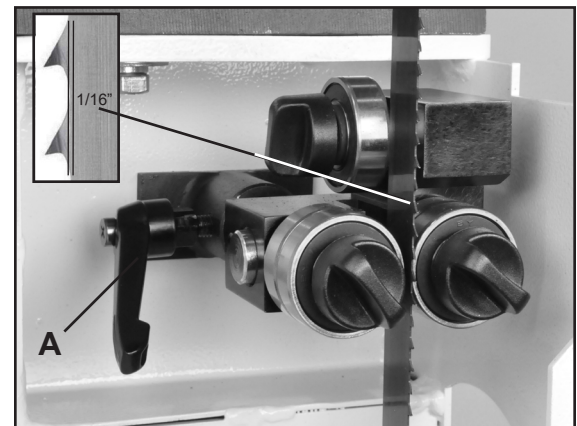
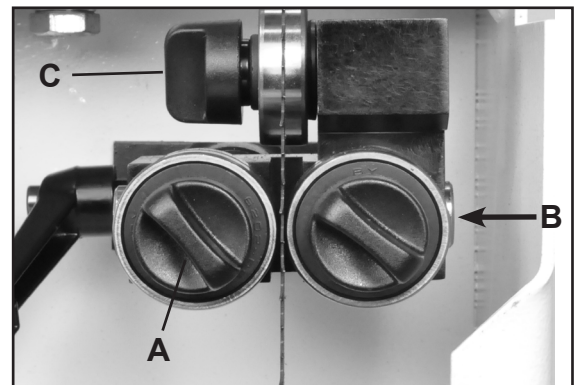

Figure 21
Figure 22
**Lower Guides:** To adjust the lower blade guides, first loosen the Lock Handle (A-Fig.21). Move the lower guide support assembly to allow the side roller guides to be approximately 1/16" behind the gullets of the blade, and re-tighten the Lock Handle. Next set the roller guides to within 1/32" of the blade by releasing the Lock Handles (A-Fig.22) and push the ends of the Guide Shafts (B-Fig.22) towards the blade. Do not set the guides too close, as this will adversely affect the life of the blade. Finally, follow the same steps above to position the rear thrust guide (C-Fig.22).